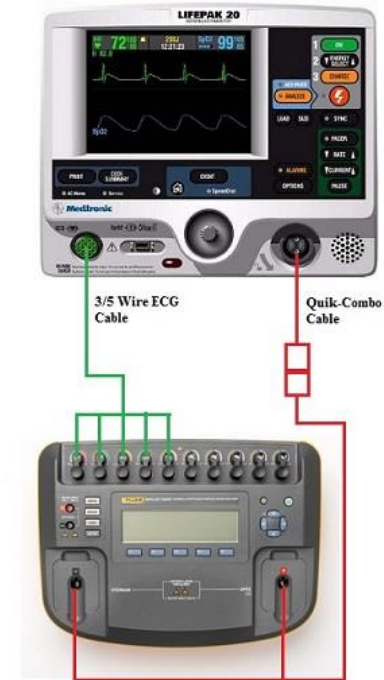

Figure 1.15: Quik-Combo Defibrillator Delivered Energy Setup
1. Establish the setup as shown in Figure 1.15.